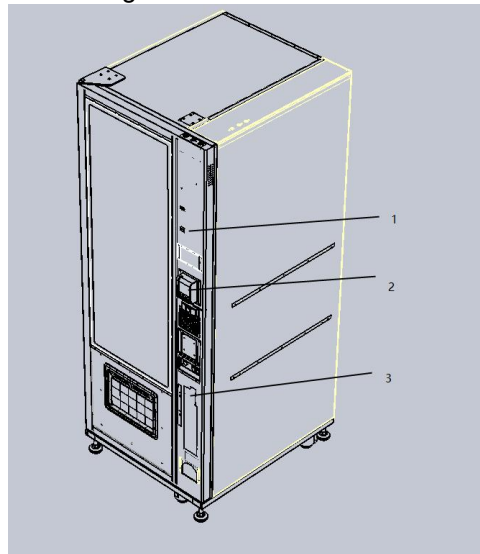

Figure 6.2 Payment device position
It is located below the coin chute(③ in the figure 6.2), 3 screws which correspond to slots on the back of the coin changer. Do not adjust these screws;
- 1) On the inside of the right door have 2 sheet metals (① and ② in the figure 6.2), each sheet metal is fixed by 4 sets of nuts and studs, and it covered by a mounting frame with the 4 studs. Either mounting frame may be used for a bill validator or card reader. The lower mounting position is ADA approved for consumers with disabilities;
1) On the inside of the right door, below the coin chute(③ in the figure 6.2), 3 screws which correspond to slots on the back of the coin changer. Do not adjust these screws;